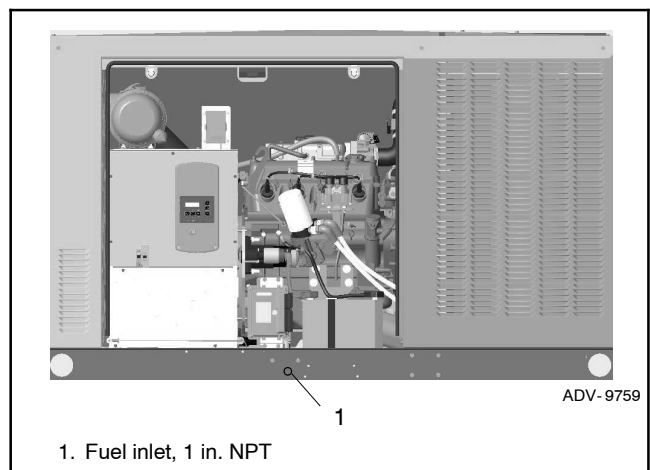

Figure 1-20 Fuel Supply Connection Location (30RCLA generator set shown)
- b. Use a section of flexible fuel line to connect the fuel supply to the 1 in. NPT fuel inlet connection on the generator set. See Figure 1-20 or the dimension drawing in Section 4 for the fuel inlet connection location.